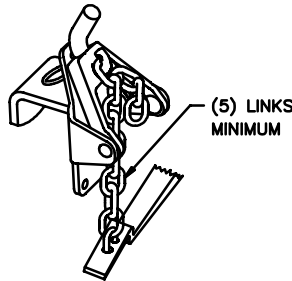

Figure 9
2. Lower lift unit. Attach upper end of chosen chain link to lift unit hook, while allowing remaining free links to fall down to the outside of the trailer frame (See figure 9).
3. **There must be at least 5 links between the lift unit and the spring bar.** This is necessary for proper operation of the spring bars during turns (See figure 9). **If there will be less than 5 links** between the lift unit and spring bar, the angle of the head assembly (2) must be increased. The trailer must be uncoupled and the upper bolt removed from the head assembly. The head assembly is then pivoted down and an additional washer is added underneath the pin [See figure 4]. Reassemble.